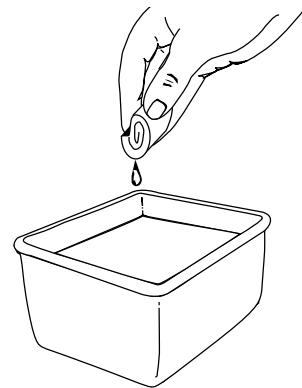

Fig. 33
3. Wash the filter in detergent and water (Fig. 33). Rinse the filter thoroughly. Squeeze out excess water. Allow it to dry completely.